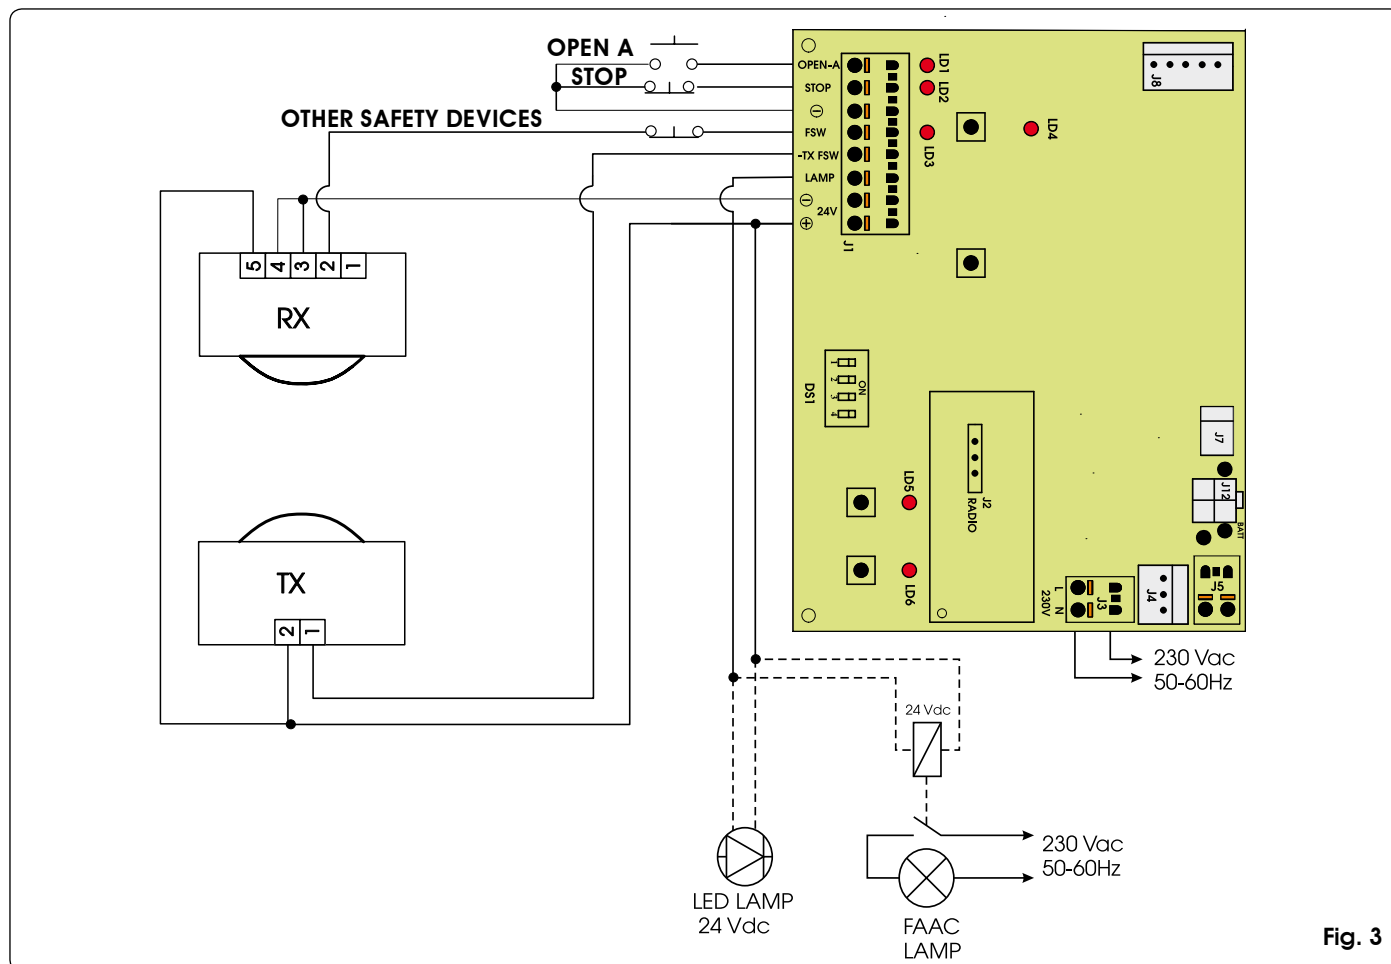

Fig. 3
- Make the electrical connections, referring to Fig. 3.